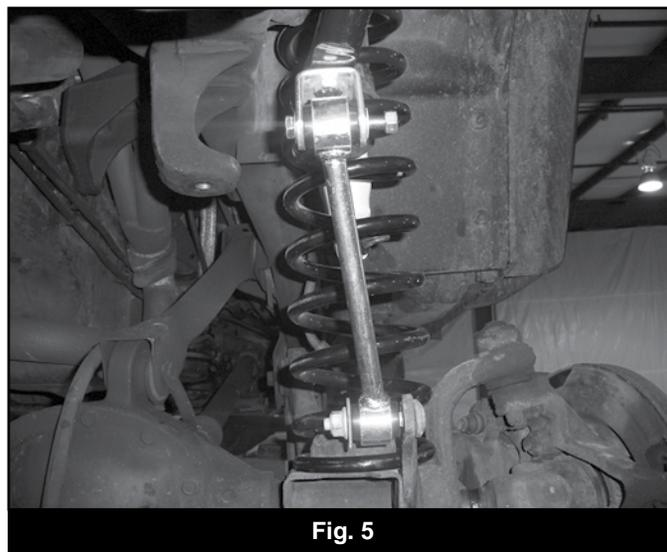

Fig. 5
22. Attached the new sway bar links to the axle mount with the factory hardware and to the new sway bar u-bracket with $3/8$ " x 2-1/2" bolts, nuts and washers (BP 746) run from inside out. The end with the smaller ID sleeve will mount to the u-bracket. When mounted correctly, the links will taper in toward the center of the vehicle as the run from the axle to the sway bar (Fig 5). Torque the factory hardware to 55 ft-lbs and $3/8$ " hardware to 30 ft-lbs.